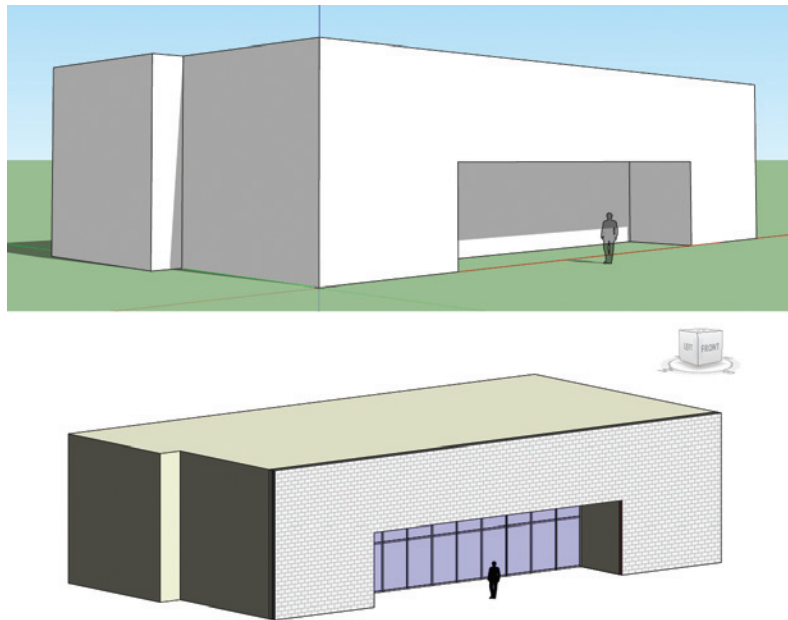

Figure 3.19: Importing a SketchUp model into Revit (front walls were created using the Wall by Face tool)
- **As a massing-modeling tool**—You can easily do massing-modeling in SketchUp by importing existing 3D buildings from the 3D Warehouse and then blocking out new buildings using SketchUp's tool set. Many larger BIM applications (e.g., Autodesk Revit and Graphisoft ArchiCAD) are able to import SketchUp models and use them to generate more detailed building models. **Figure 3.19** illustrates this for Revit.